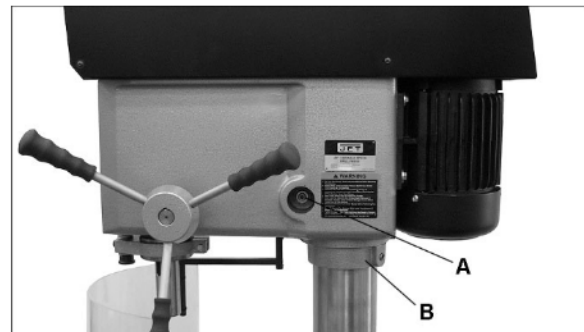
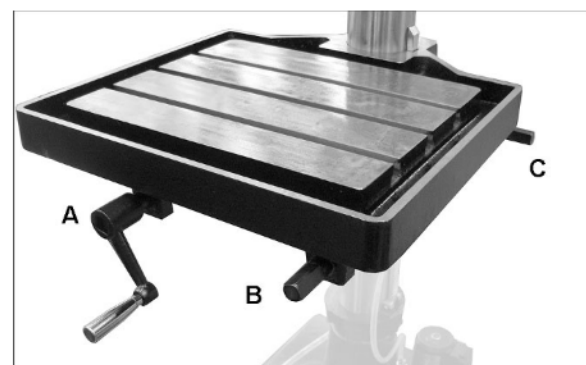

Figure 5-1
Figure 8-2: table adjustments
2. Loosen head locking nut (A, Figure 5-1) by turning counterclockwise with provided socket wrench.
4. Loosen table lock by placing handle on crankshaft (see A, Figure 8-2) and rotating handle counterclockwise.
5. Raise table by placing handle on crankshaft (B or C, Figure 8-2) and rotating clockwise. Place 2x4 vertically between table and head, as close to column as possible. **CAUTION:** Do not place 2x4 under lock collar (B, Figure 5-1).
7. Securely tighten head locking nut (A, Figure 5-1). This will secure head until lock collar can be positioned. The 2x4 can now be safely removed.
8. Loosen two set screws on lock collar (B), and slide lock collar until it is flush with head. Securely tighten both set screws.